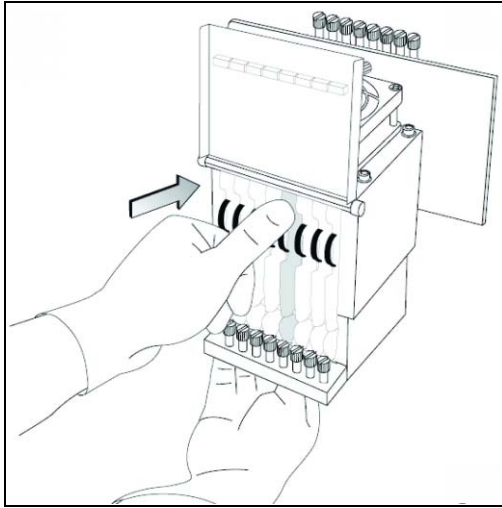

Figure 6-71: Inserting the print-head driver card into its socket
- Re-insert the print-head driver card into its socket (see figure 6-71 on page 49).